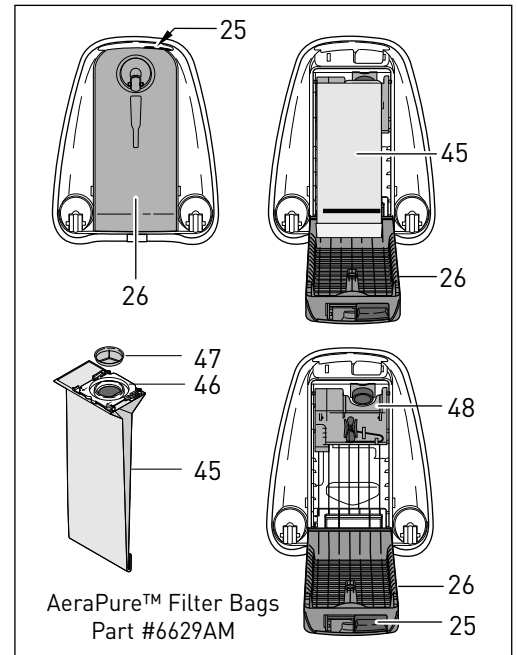

Figure 17
Changing the Filter Bag - Figure 17
To change the filter bag (45), set the canister upright (as shown in figure 17), press the cover release catch (25) and lower the filter bag cover (26). Grasp the green filter bag sealing plate (46), slide the plate from the holder (48) and push the filter bag cap (47) on to seal the bag. Slide the sealing plate (46) of a new bag into the bag holder slots (48) and push it in firmly until it locks into place. Close the cover, making sure it snaps shut completely. You may find it convenient to store the bag cap inside the filter bag housing below the filter bag. Do not re-use the filter bags. Note: the nature of the contents of the filter bag will affect the point at which it needs changing. Fine dust may require an earlier change even though the bag is not full. Fluff or hair allows air to pass through easily, so the filter bag may overflow before the amber "bag full" light illuminates.
Changing the Pre-motor Microfilter - Figures 17 & 19
After 10 to 20 bags have been used, change the pre-motor microfilter (52). To remove the microfilter, set the canister upright (as shown in figure 17). Press the cover release catch (25) and lower the filter bag cover (26). Remove the filter bag, then remove the cover by sliding it up and out of the grooves (53). Pull the old filter out (52) and slide the new filter into the same position. Replace the filter bag, then re-insert the cover by fitting the tabs into the grooves (53) on both sides and sliding it in and down. Push the cover closed, making sure it snaps shut completely.
Remove hose (10) from vacuum cleaner (see figure 22), open the filter bag cover and remove the filter bag. (figure 17, page 12). Clean out entrance to bag (58).